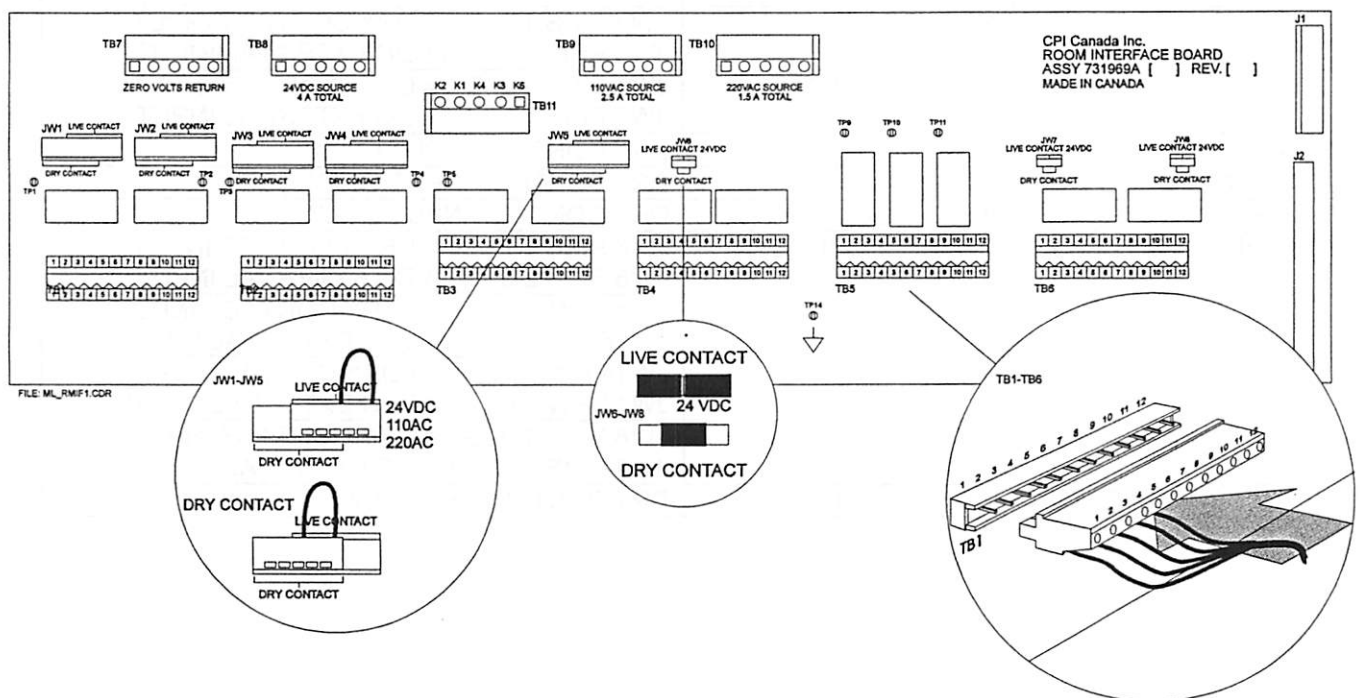

Figure 3B-2: Room interface board
- Figure 3B-2, room interface board layout.